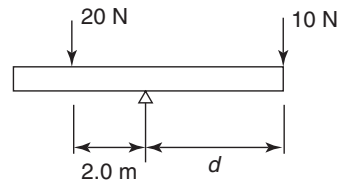

Figure 5.33
2. The distance d in Figure 5.33 when the beam is in equilibrium is: